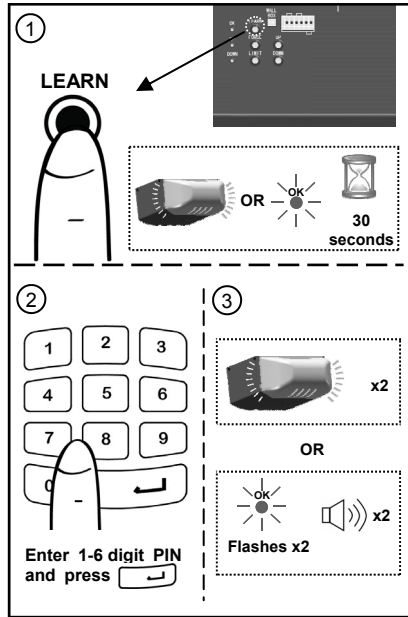

Fig.1
1. Press/Release the "LEARN" button on the rear control panel, courtesy light will glow[#] or "OK" LED will glow and beep*. The unit is now ready to accept a transmitter in the next 30 seconds as shown in Fig.1.